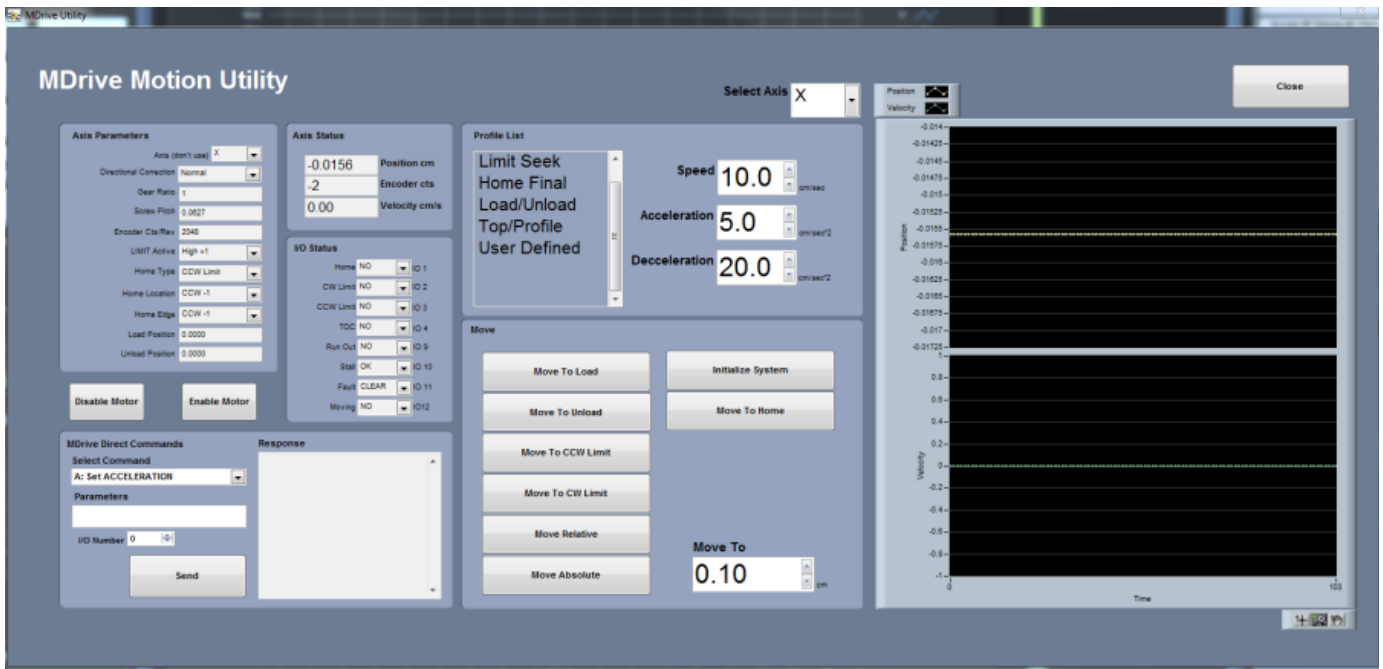

Figure 22. Motion Utilities Window
- Click the **Open Utilities and Test button** to open the Motion Utility window (Fig. 22) and test the settings. Click **Close** to exit this window.
- **Track Length:** Distance in cm between the limit switches. Use the Motion Utility (Fig. 22) to determine this value by moving from limit switch to limit switch plus the length of the tray used.